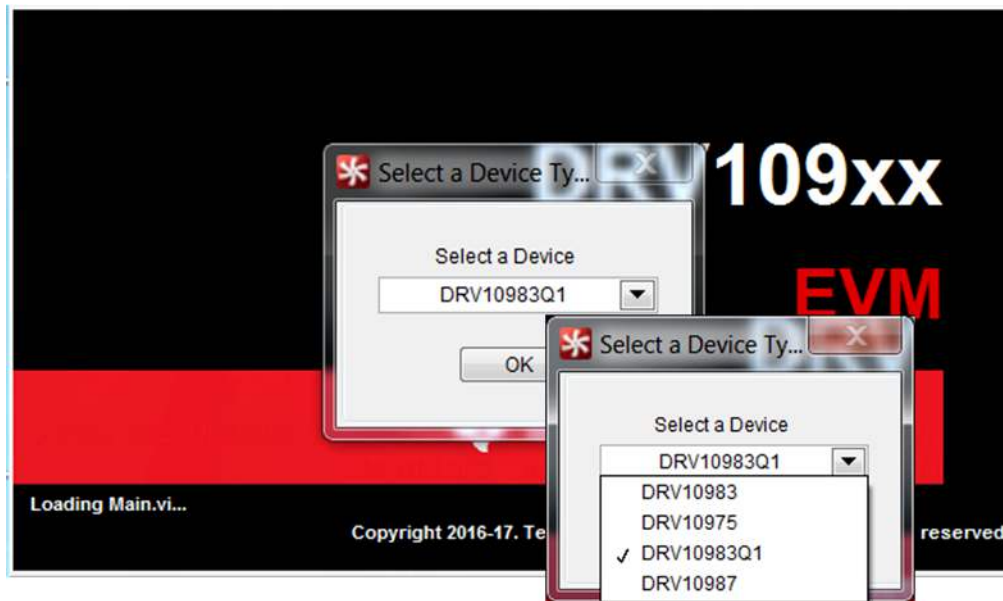

Figure 8. Initial GUI Screen
- Step 9. Select the appropriate device configuration as shown in Figure 8.